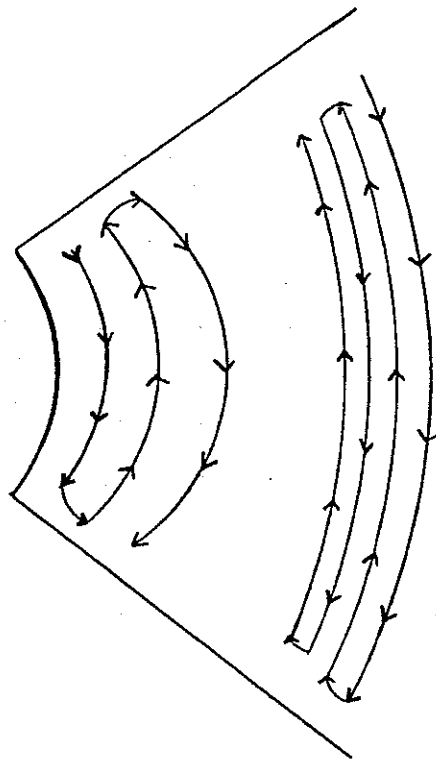

Figure 15.
- d. Infield edge of outfield grass-working towards warning track (follow this by going back and forth). (Figure 15.)
- e. Outfield edge of grass on warning track-working towards infield grass. (Figure 15.)